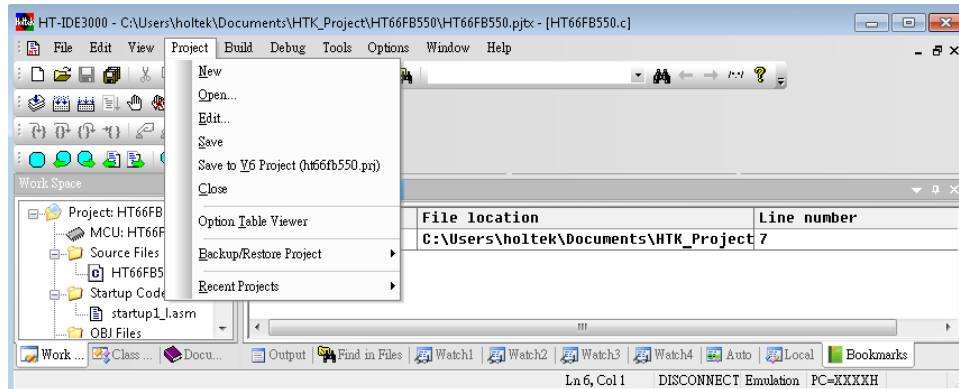

Fig 4-1
In the Project menu (Fig 4-1), select the New command to create a new project. This command will call the CodeWizard to assist users to create a new project.
The HT-IDE3000 can work with only one project at a time, which is the opening project, at any time. If a project is to be worked upon, the project should first be opened, by using the Open command of the Project menu (Fig 4-1). Then, insert the project name directly or browse the directories and select a project name. Use the Close command to close the project.
- Click either the Build command of the Build menu or the Build button on the toolbar (Fig 4-1) to start building a project
On the toolbar (Fig 4-1) to start building a project once the project task has been built successfully, emulation and debugging of the application program can begin (refer to the HT-IDE3000 menu - Debug chapter).